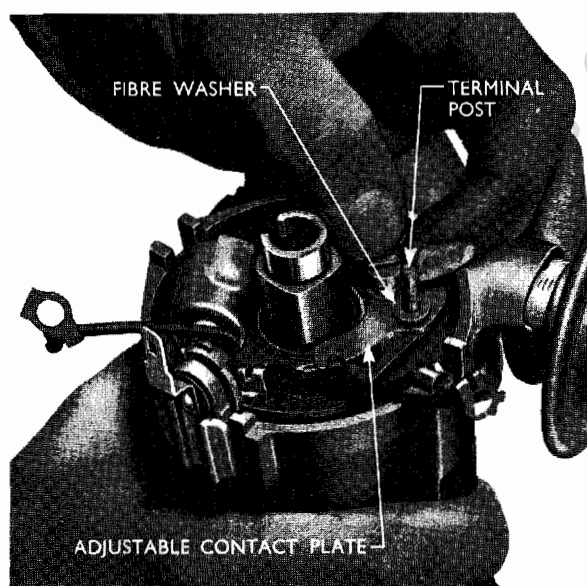

Fig. 3
1. Secure the adjustable contact to the breaker plate (see Fig. 3) with one flat washer, lockwasher and screw, but do not tighten the screw fully at this stage.